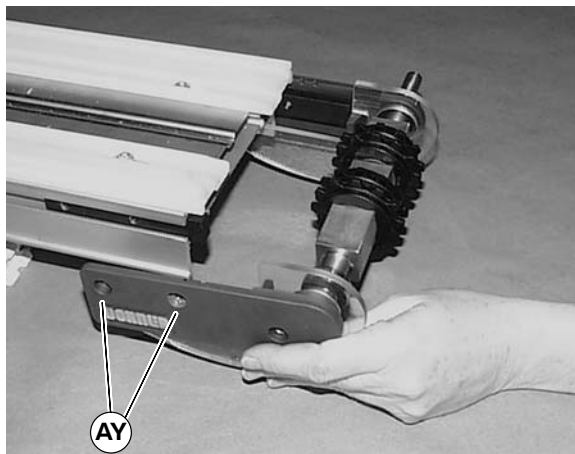

Figure 41
5. Slide remaining head plate on to end of spindle and tighten fastening screws (AY of Figure 41) to 60 in-lb (7 N-m).